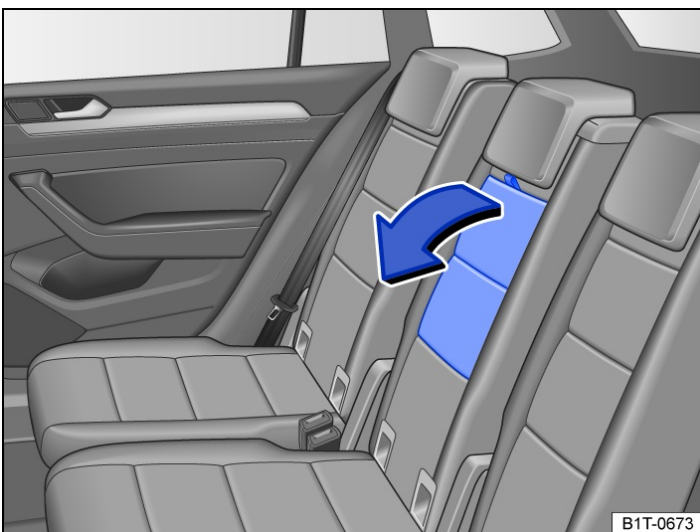

Fig. 2 Folding center armrest in the rear.
- To *fold forward*: pull the center armrest in the direction of the arrow using the loop → *fig. 2*.
- To *fold back*: fold the center armrest upward in the opposite direction of the arrow → *fig. 2* and press it all the way toward the seat backrest.